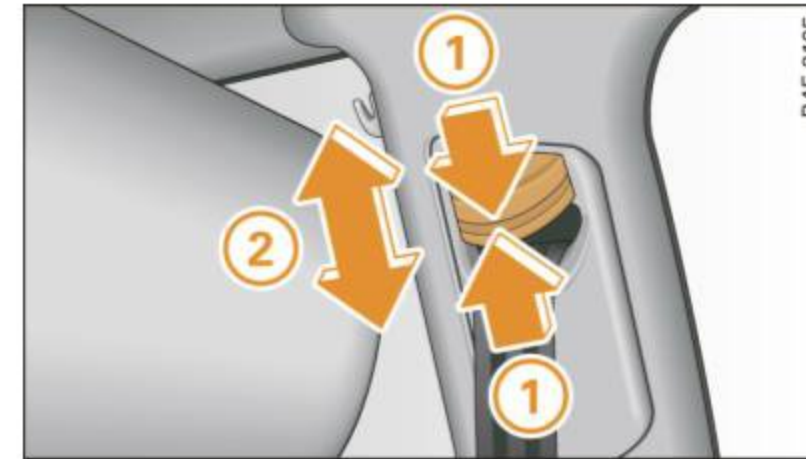

Fig. 157 Safety belt height adjustment for the front seats – loop-around fittings
- Push the loop-around fittings **up** ⇒ fig. 157 , or